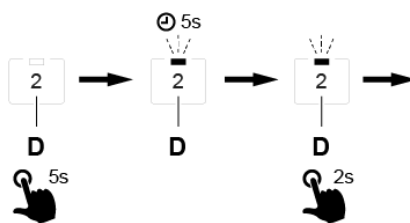

Fig. 3
- To reprogramme the operating mode to mode 2, press and hold down button D for five seconds. See Fig. 3. Release the button when the LED starts flashing.